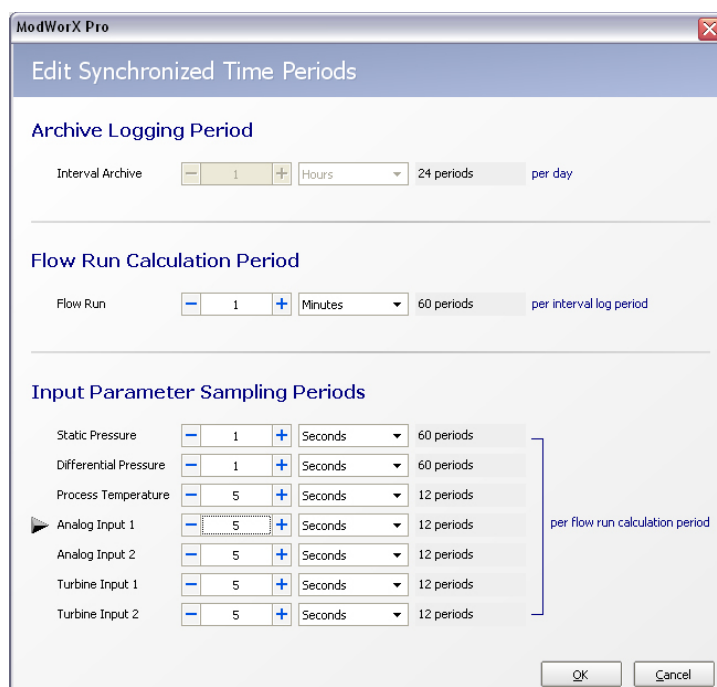

Figure 6.23
- i. Click **Edit**. The Edit Synchronized Time Periods dialog will appear, and an arrow will point to Analog Input 1 or Analog Input 2 (Figure 6.23, page 89).